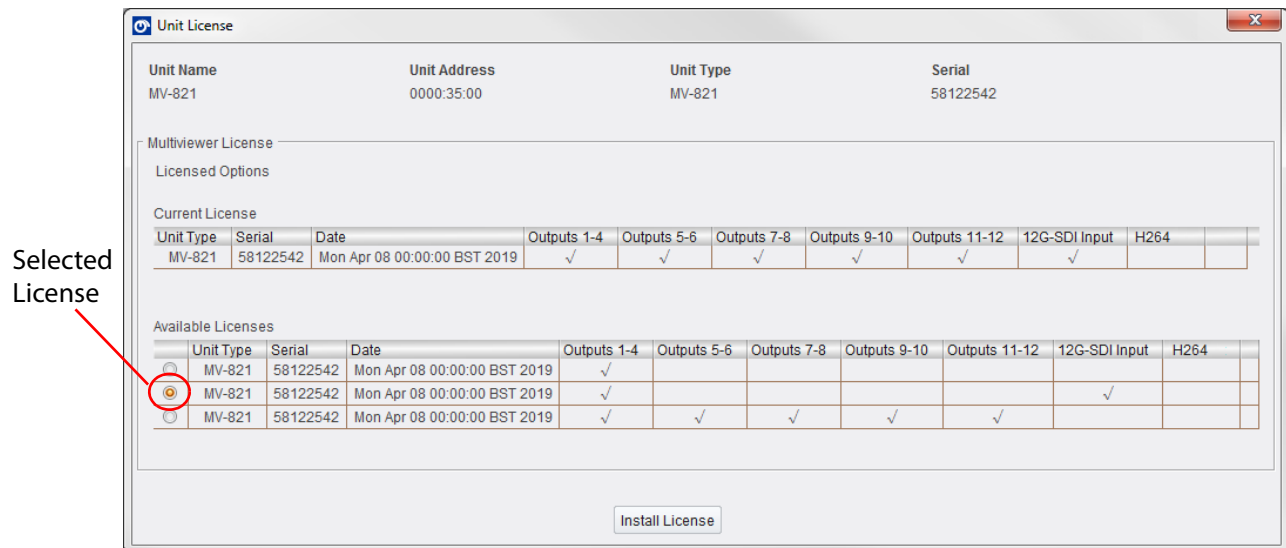

Fig. 8-4: Unit License Dialog - Selected License (An image for MV-821 is shown)
- 2 The **Unit License** window shows current licenses and available licenses. See Figure 8-4.